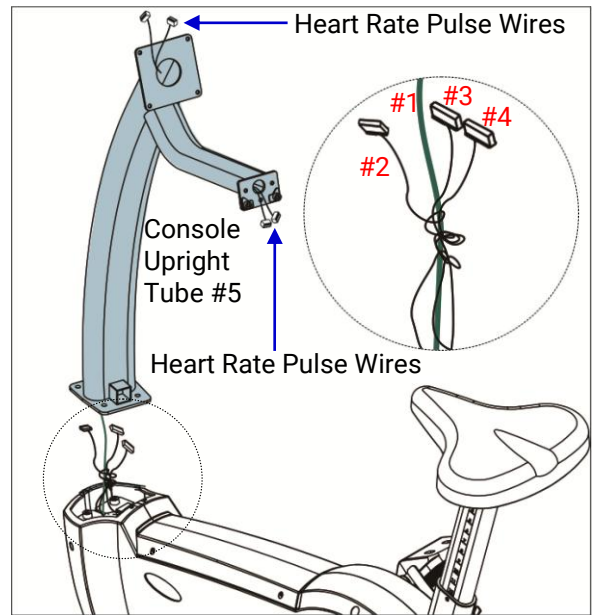

Fig 2.5-4A
- 2) Thread the **Guiding Wire #1** which is tied with the **Power Wire #2, Console Wire #3 and Network Wire #4** through the **Console Upright Tube #5**. (Fig 2.5-4A)